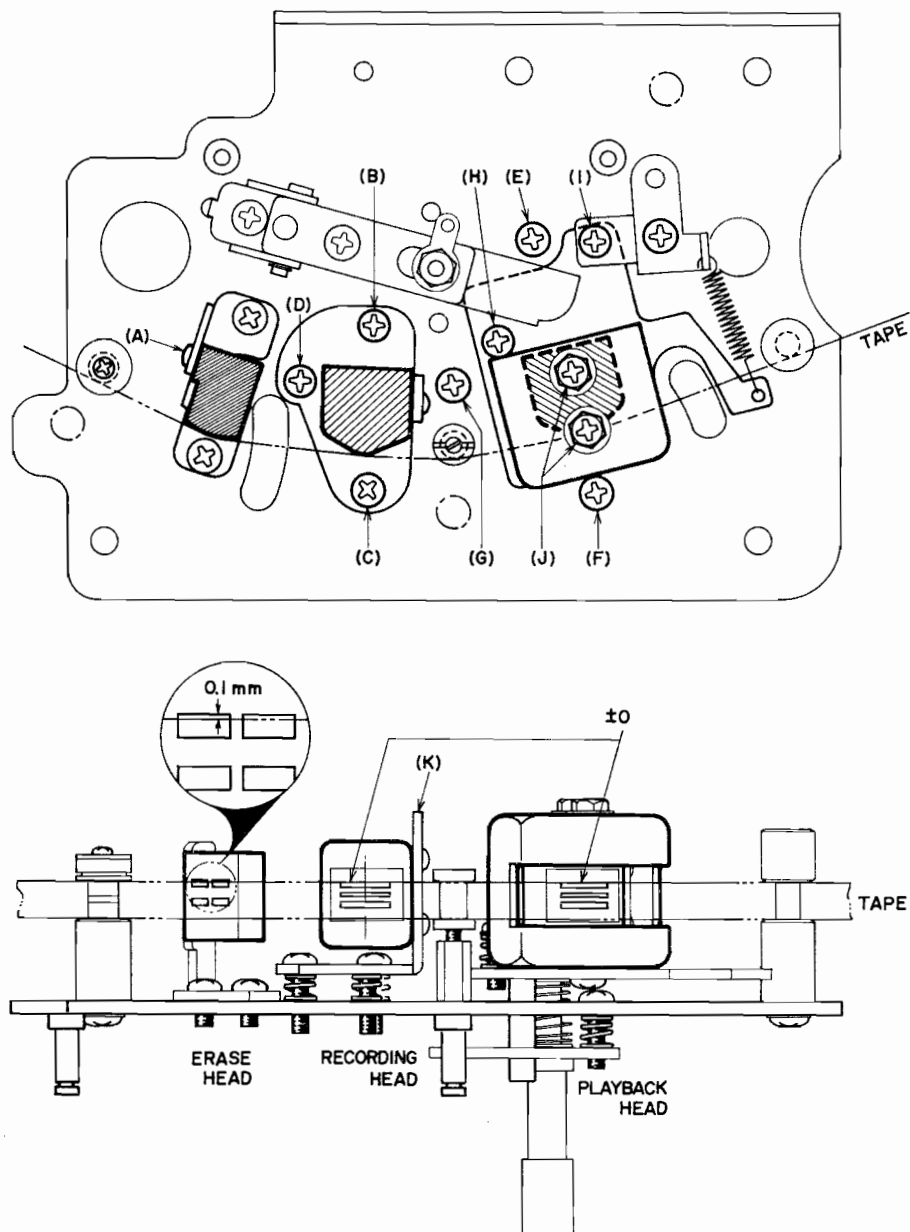

Fig. 14
At P.B. mode, loosen screw (A) shown in Fig. 14 and adjust erase head height so that the upper edge of the tape is about 0.1 mm lower than the left channel head core of the erase head.
At P.B. mode, adjust recording head height by turning screws (B), (C), and (D) shown in Fig. 14 to left and right until the upper edge of the tape and the upper edge of the left channel head core of the recording head are the same height.
- a. At forward P.B. mode, adjust playback head height by turning screw (I) shown in Fig. 14 to left and right until the upper edge of the tape and the upper edge of the left channel head core of the playback head are the same height.
- b. At reverse P.B. mode, adjust playback head height by turning screw (H) shown in Fig. 14 to left and right until the lower edge of the tape and the lower edge of the right channel head core of the playback head are the same height.
- c. At recording mode, turn azimuth alignment screw (D) to left and right and adjust so that the line output level of both channels is maximum and does not fluctuate.
- d. When the above adjustment has been completed, adjust the gap side of the recording head by bending recording head installation angle (K) shown in Fig. 14 to left and right until the line output level (both channels) does not fluctuate (maximum allowable fluctuation +0.5/-0 dB) when tension is applied to the supply reel.